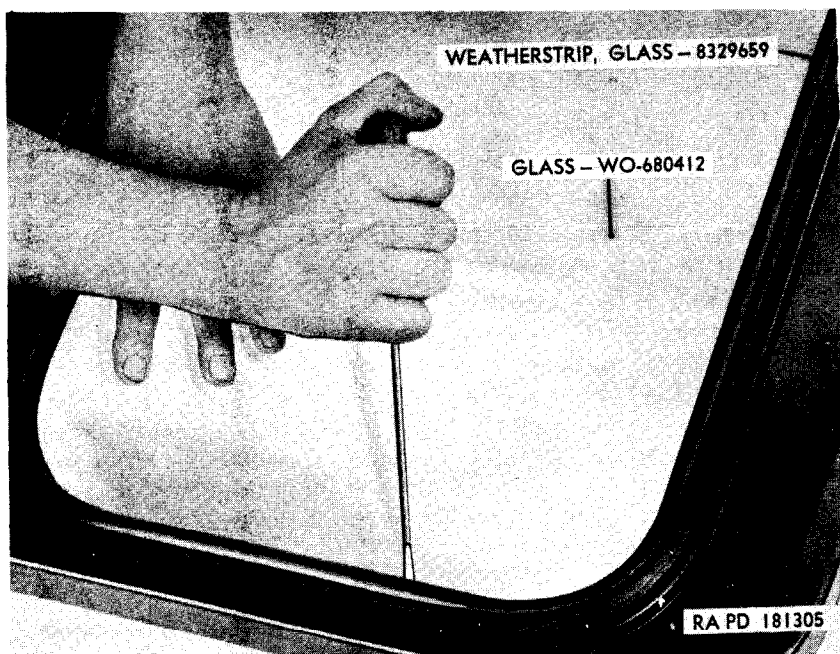

Figure 169. Installing windshield glass weatherstrip.
- (d) *Install lock catch.* Secure lock catch (J) to frame with two $\frac{1}{4}$ -20NC-2 x $\frac{3}{4}$ bolts (K).
- (e) *Install footman loop.* Place hold-down strap (M) on footman loop (L). Secure footman loop and strap to frame with two No. 10-16 x $\frac{5}{8}$ tapping screws (N).
- (f) *Install windshield glass.* Soap flange of frame with liquid soap. Install glass weatherstrip (HH) over flange of windshield frame. Position windshield glass in upper left corner of weatherstrip at center bar of weatherstrip. Continue guiding glass in place in the weatherstrip using a screwdriver to slip upper portion of weatherstrip over glass (fig. 169).